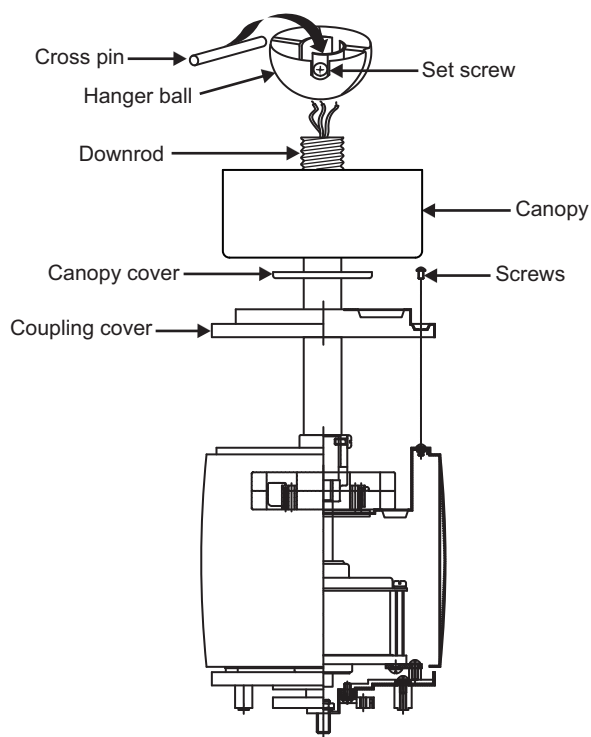

Fig. 10
Step 9. Slip the coupling cover, canopy cover and canopy onto the downrod. Secure the coupling cover to the motor housing using the two screws previously removed. (Fig. 10)
Thread the hanger ball onto the downrod, insert the cross pin through the downrod and tighten. Now tighten the set screw. (Fig. 10)